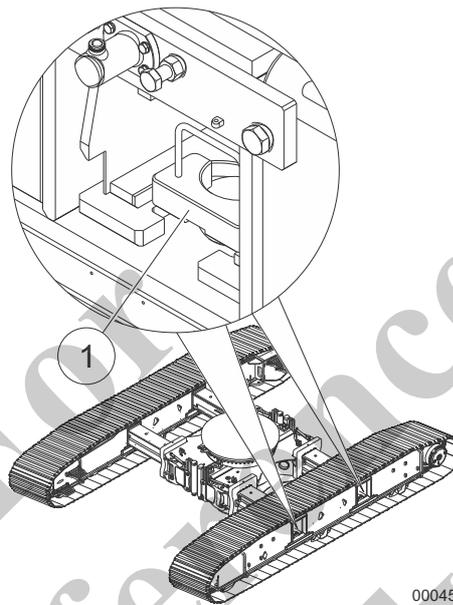

Fig. 117 Inserting and securing the retainer
11	Insert the holder (1) in Fig. 117 at the marked position.